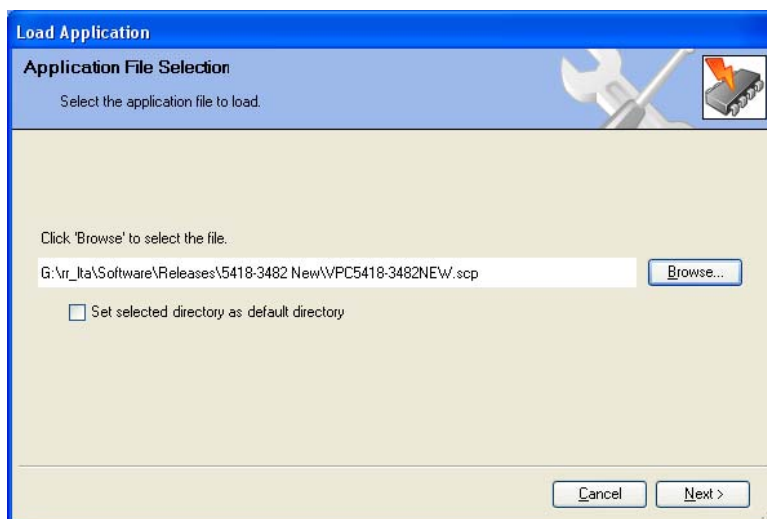

Figure 5-3. Application Filename
7. Select the file with the new application filename: VPC5418-3482 NEW.scp, and click the Next button (Figure 5-3).